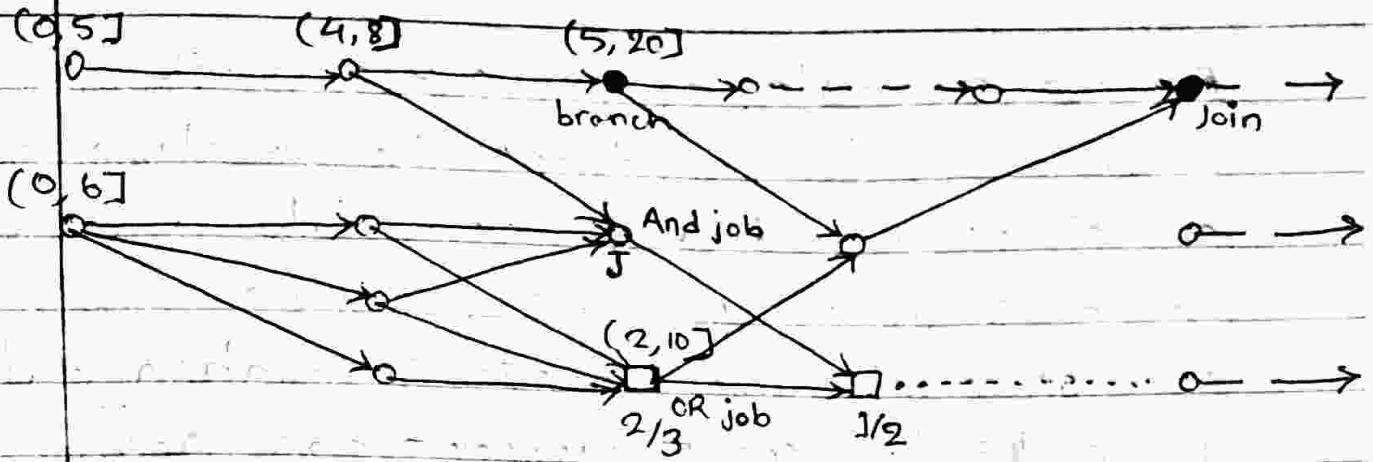

Figure 3-1: Example of task graphs.
- In the figure 3-1, the job labeled J is an example of AND job. All three of its immediate predecessors must be completed before J can begin execution. And jobs are represented by unfilled circles in the task graph.
In figure 3-1 we represent OR jobs by square vertices. The one labeled 2/3 can begin execution as soon as two out of its three immediate predecessors completed.
→ Conditional Branch can be modeled by a task graph that has edges expressing OR constraints. Only one of all the immediate successors of a job whose out-going edges express OR constraints is to be executed. Such a job is called a branch job. In a meaningful task graph, there is a join job associated with each branch job. In figure 3-1, these jobs are represented by filled circles.
dotted edge between the jobs in the right bottom corner of the graph in figure 3-1. There is an edge from J_i to J_k if the output of J_i is piped into J_k and the execution of J_k can proceed as long as there are data for it to process.